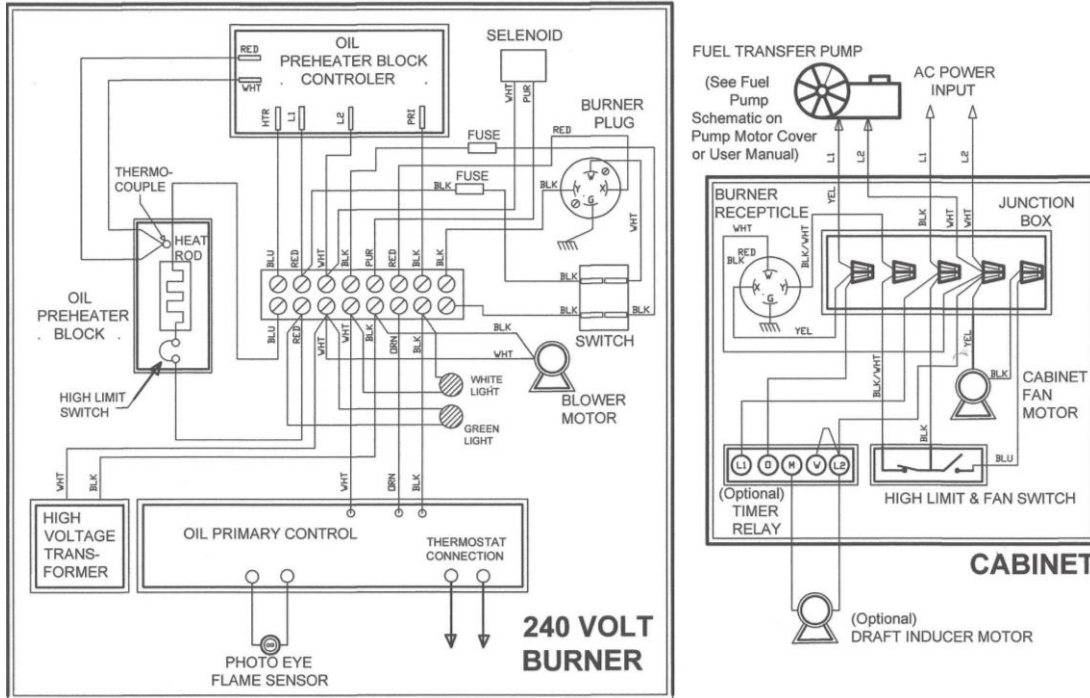

Figure 2 – Wiring Diagram
2. For optional draft inducers or power vent wiring, See Figure 2. One of these devices must be installed where back draft is present. In building or correct draft cannot be achieved.
See Schematic diagram below (Pg.7 Figure 2) and/or inside door of main electrical junction box on heater.